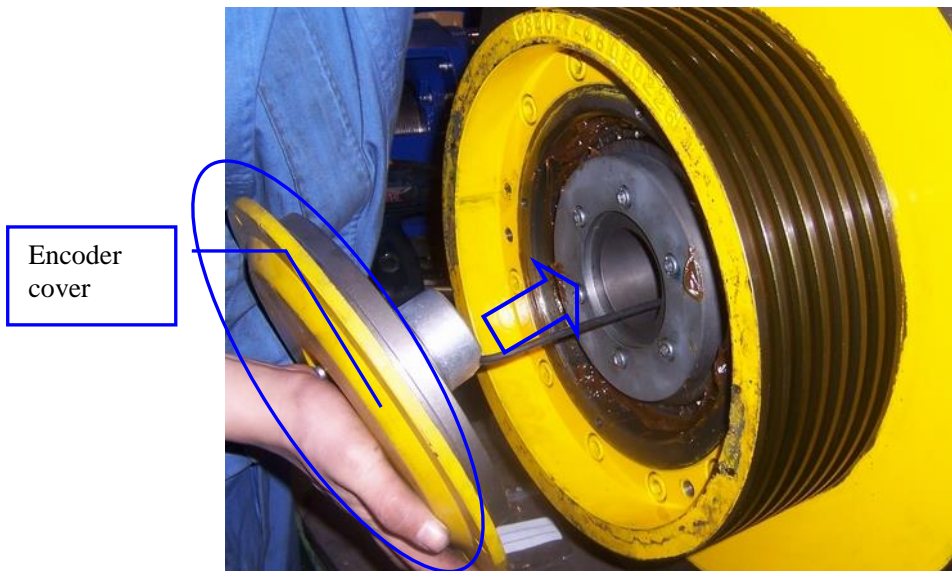

Figure 20: Reinstall Encoder cover
5. Install the encoder cover into the brake wheel, and tighten the four bolts (M8x25) with the lock washers using a 6mm hex wrench. See Figure20.